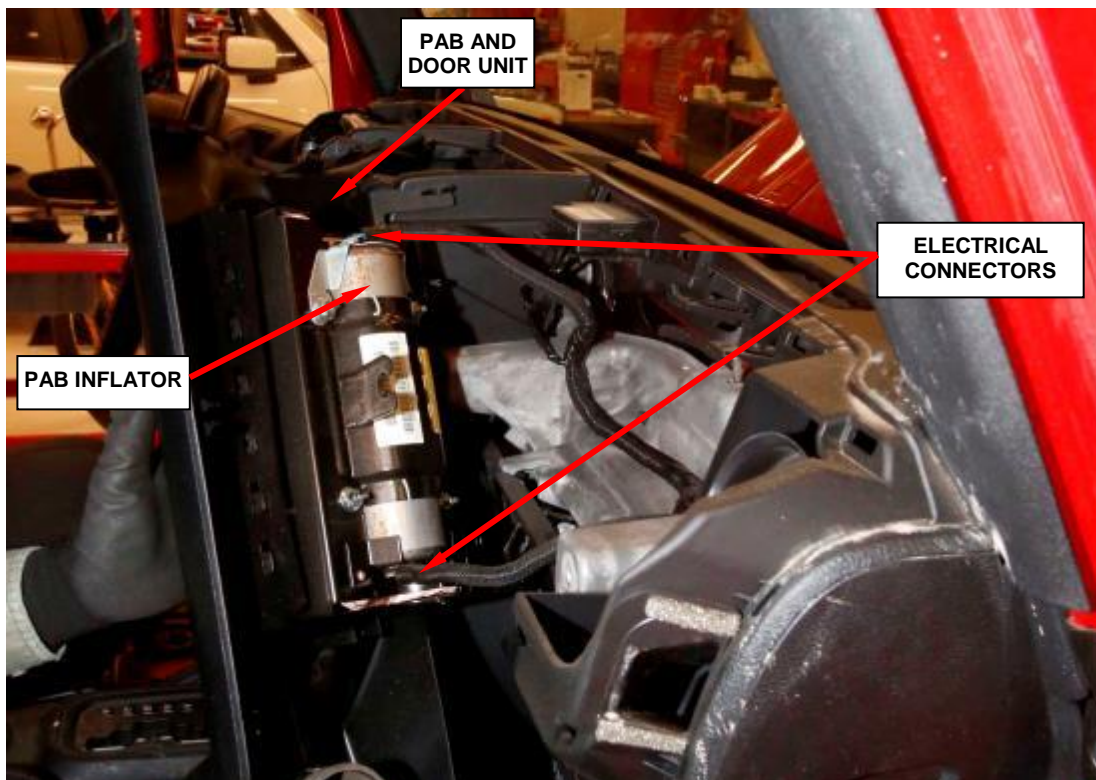

Figure 128 – Electrical Connectors
28. Grasp the lower edge of the PAB door and pull the door and PAB unit rearward far enough to access the two instrument panel wire harness connections to the PAB inflators at each side of the PAB housing (Figure 128).
29. Disconnect the two panel wire electrical connectors from the PAB inflators. Firmly grasp and pull the lock straight out from the connector insulator, then pull the insulators straight out from the inflator to disconnect them from the connector receptacles (Figure 128).